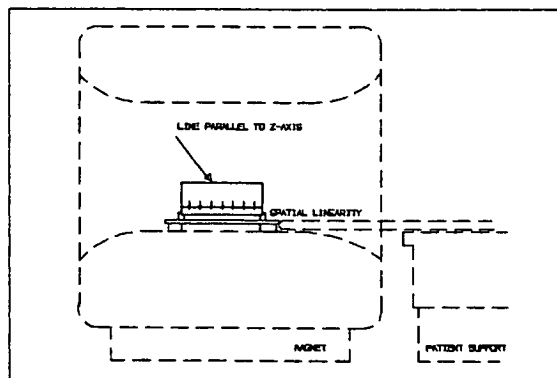

Figure 3 Coronal position of phantom
- For correct position see Figure 3